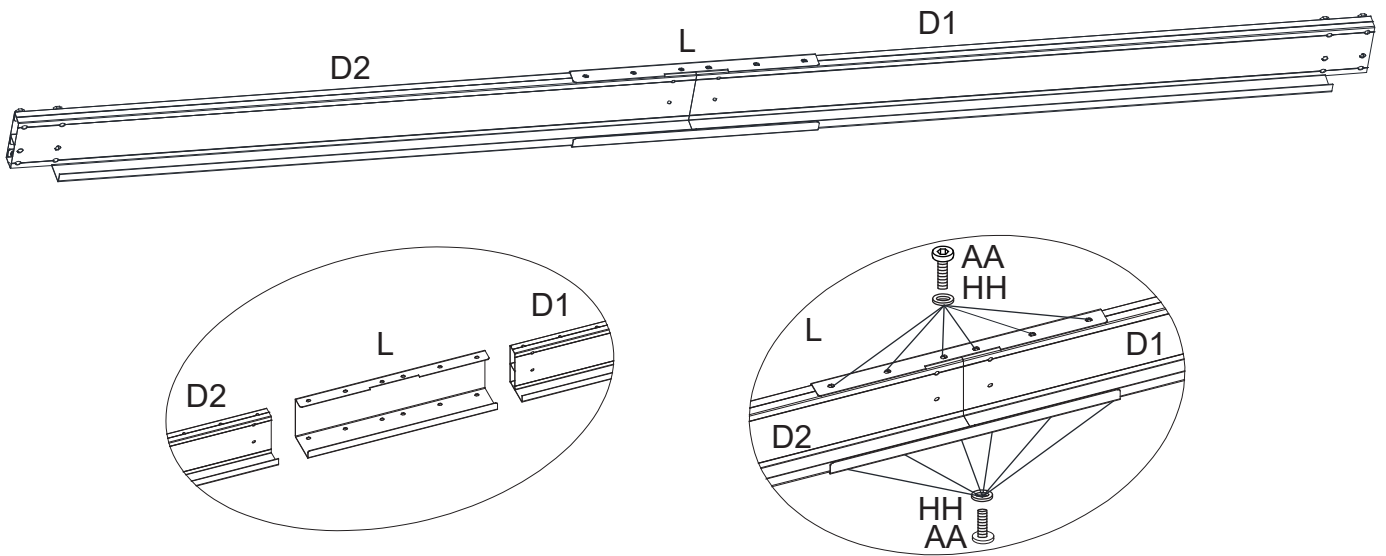

Figure1
1. Slide the Front Lintel (D1) and the Front Lintel (D2) into the Connector (L) by using Bolts (AA) and Washer (HH). See Figure 1.